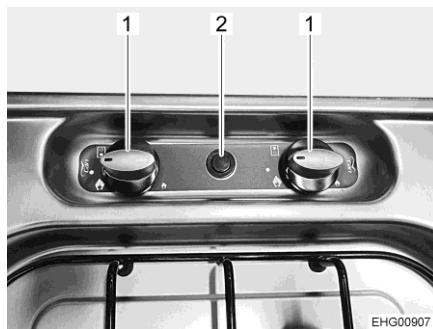

Fig. 106 Gas cooker
- Turn the control knob (Fig. 106,1) on the burner you wish to use to the ignition position (large flame).
- Press the push button (Fig. 106,2). An ignition spark is created at the burner. If necessary, press the push button several times.